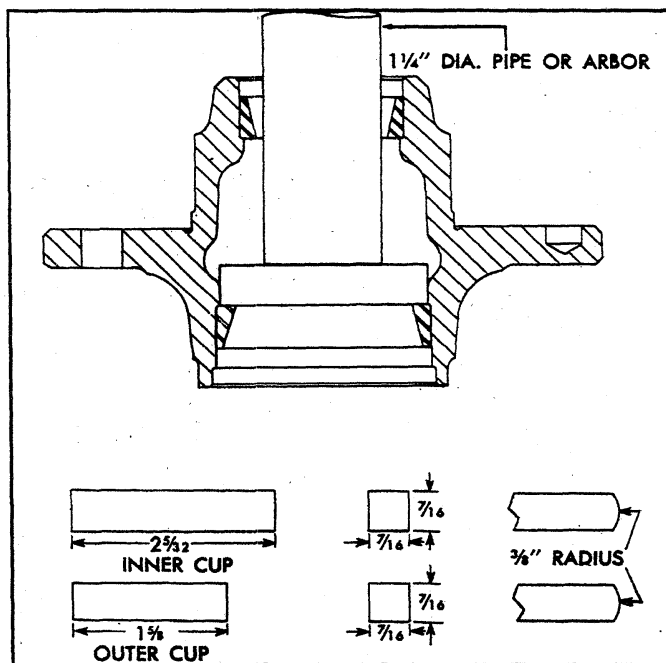

Fig. 11 - Front Wheel Bearing Cup Removers
1. Using steel bar stock, make press-out tools shown in Figure 11.